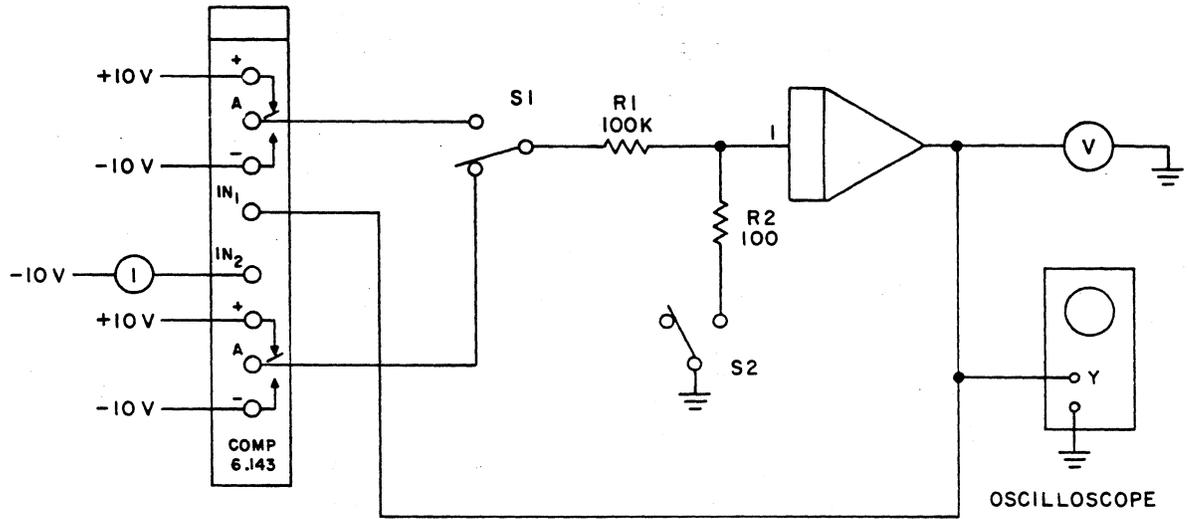
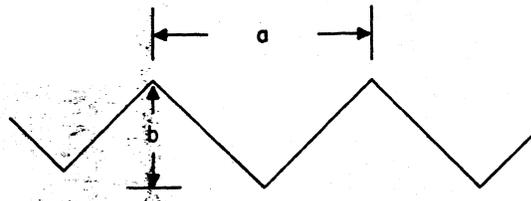

Figure 42. Sensitivity and Switching Time Test Circuit
Figure 43. Test Waveform
(2) Sensitivity. The sensitivity and switching time of the Relay Comparator are checked by means of the circuit in Figure 42. Proceed as follows:
- (b) Switch the computer to OPERATE and adjust coefficient potentiometer number one until the voltmeter (VM) reads zero. At this point, the comparator relay arms should begin to oscillate between the plus and minus contacts.
- (c) The oscilloscope should display a waveform similar to the one in Figure 43. On the display, the zero level represents the time when the relay should switch. The positive and negative peaks represent actual switching times. Thus the difference between the zero level and the adjacent peak represents the switching time. For convenience, the switching time may be calculated as 1/4 the time between any pair of adjacent peaks (i.e., a/4) since this technique eliminates the need for determining the zero level.
- (e) The oscilloscope waveform again should be similar to Figure 43. Distance "b" represents the switching sensitivity.